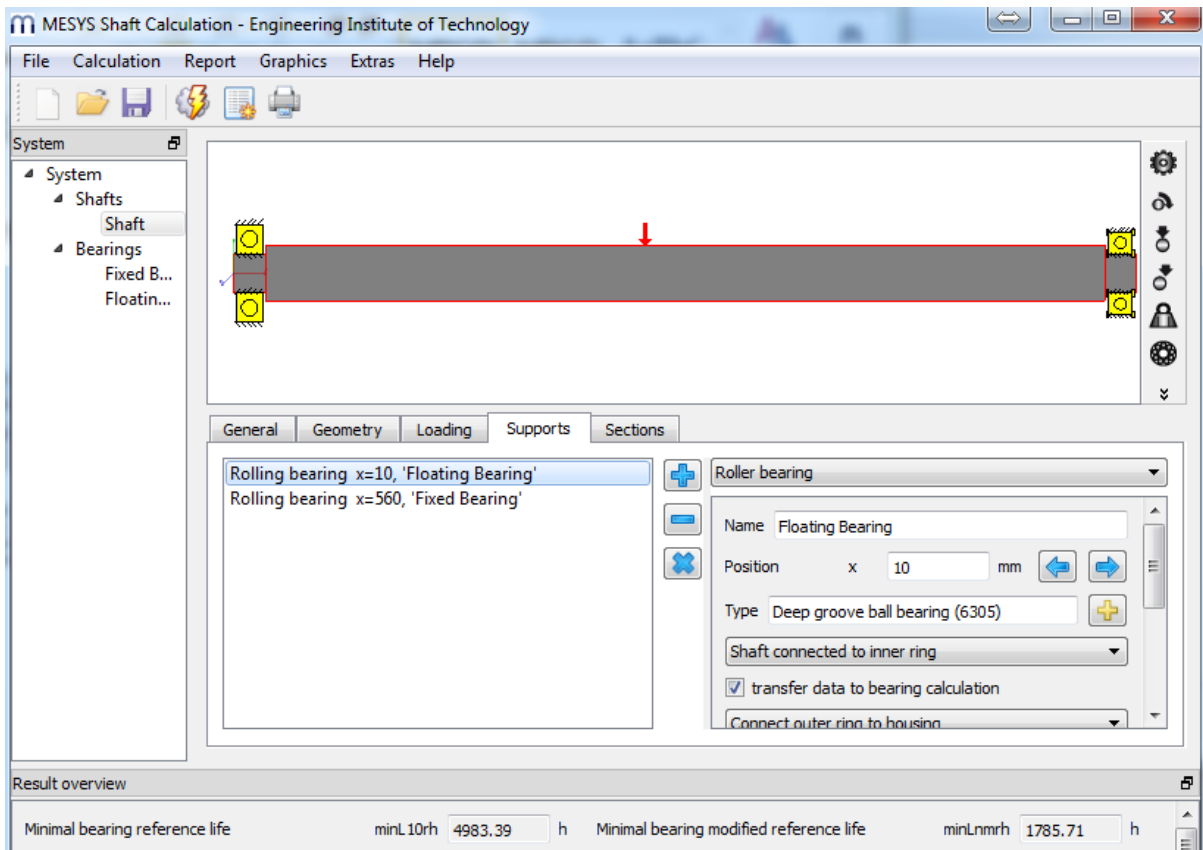

Figure 4
- Select the bearing specification by clicking on the "+" next to Deep Grove ball bearing. Select deep groove ball bearing 6305 for the first bearing and deep groove ball bearing 6205 for the second bearing. Refer to figure 4 & 5 for more details.